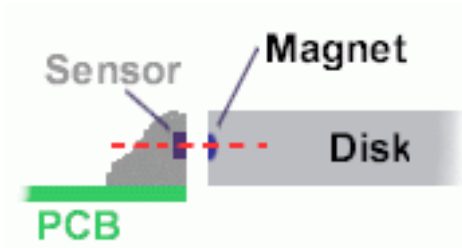

Figure 4 Ensure correct alignment of magnet disk and sensor.
- Take care that the magnets in the disk are approximately in the same height as the sensor, see figure 4 on page 10.